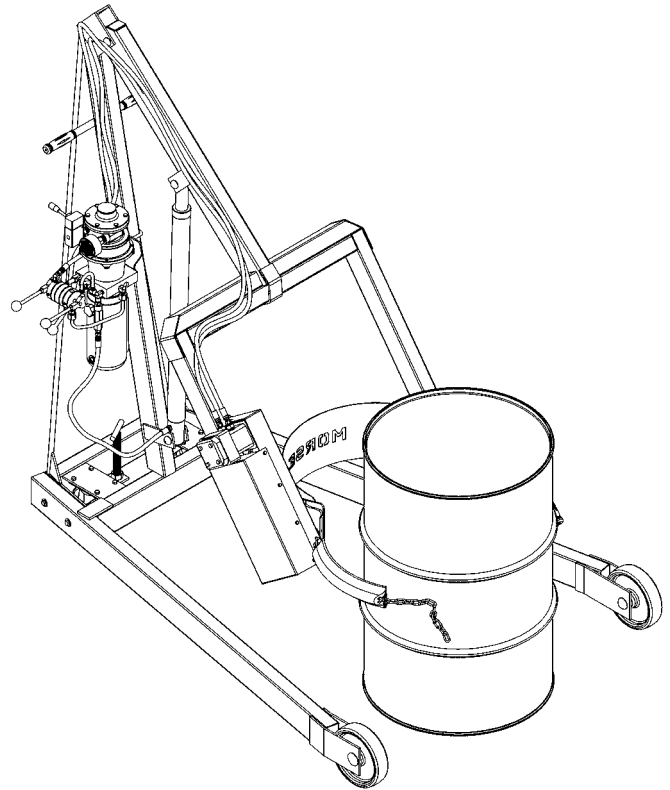

Figure 3.1
The screw-down floor lock is located on the base of the tower (figure 3.1). Turning the floor lock clockwise until it locks in the down position activates the floor lock. When the floor lock is activated it prevents unwanted free wheeling of the unit. Floor conditions determine the effectiveness of the floor lock. The operator should verify its holding action before depending on it to hold.
- 2.) Using the "LIFT" control as described in "**Machine Description - Controls**" (page 3) , position the drum holder assembly with the back band at the middle of the drum. (Figure 3.1). With the ratchet plate swung open and the cinch chain hanging from the chain hook, push the unit until the back band rests firmly against the drum. Some adjustment to the tilt angle of the saddle may be necessary to ensure band fits flush on the drum.